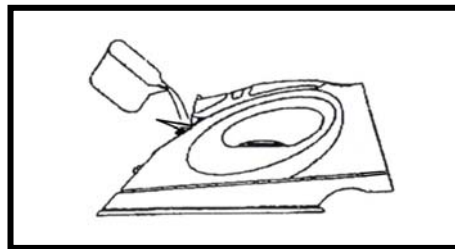

Figure 2
2. Holding the iron at a slight angle, pour water slowly into the water filling inlet. See figure 2. Fill tank to desired level or to the "MAX" water level marking using the water filling flask. (When the iron is upright, the blue, see-through water tank allows you to gauge the amount of water.) DO NOT overfill the tank.